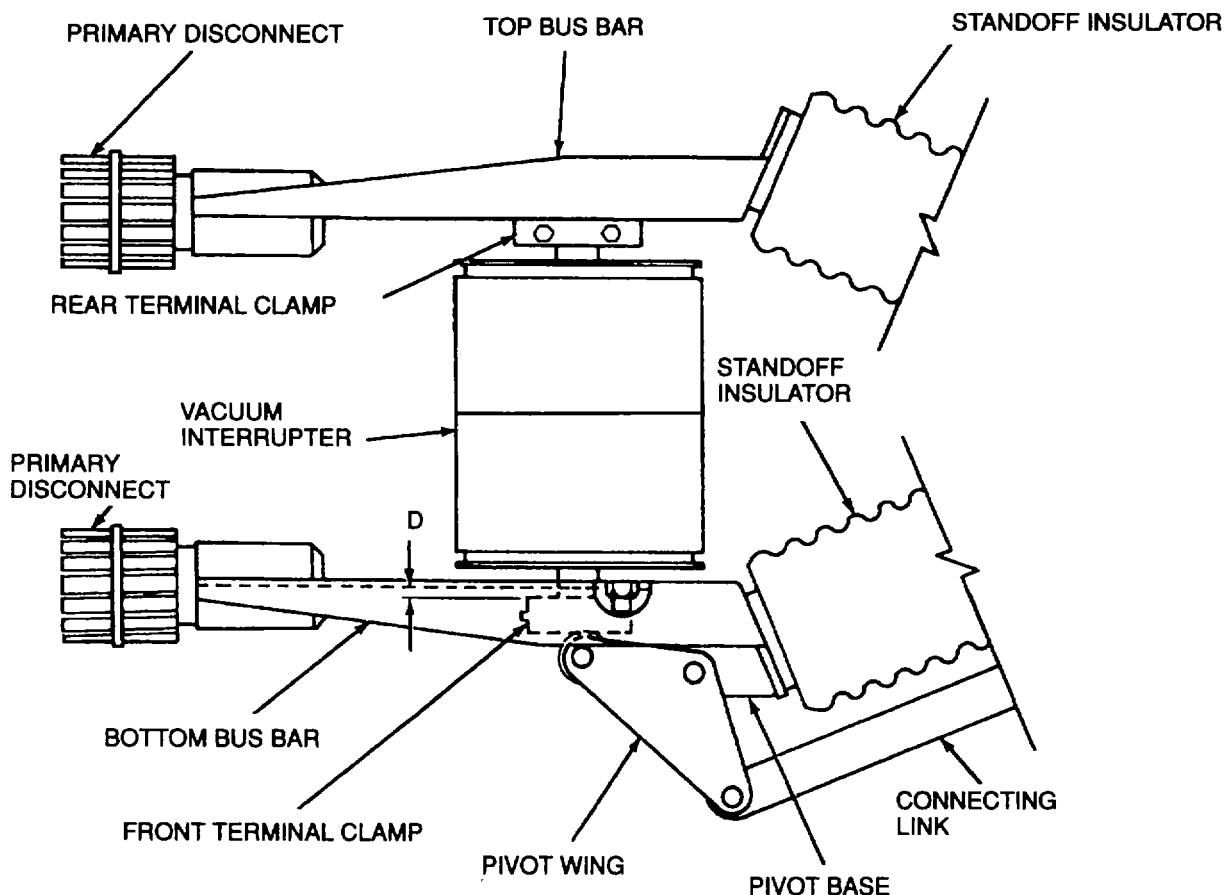
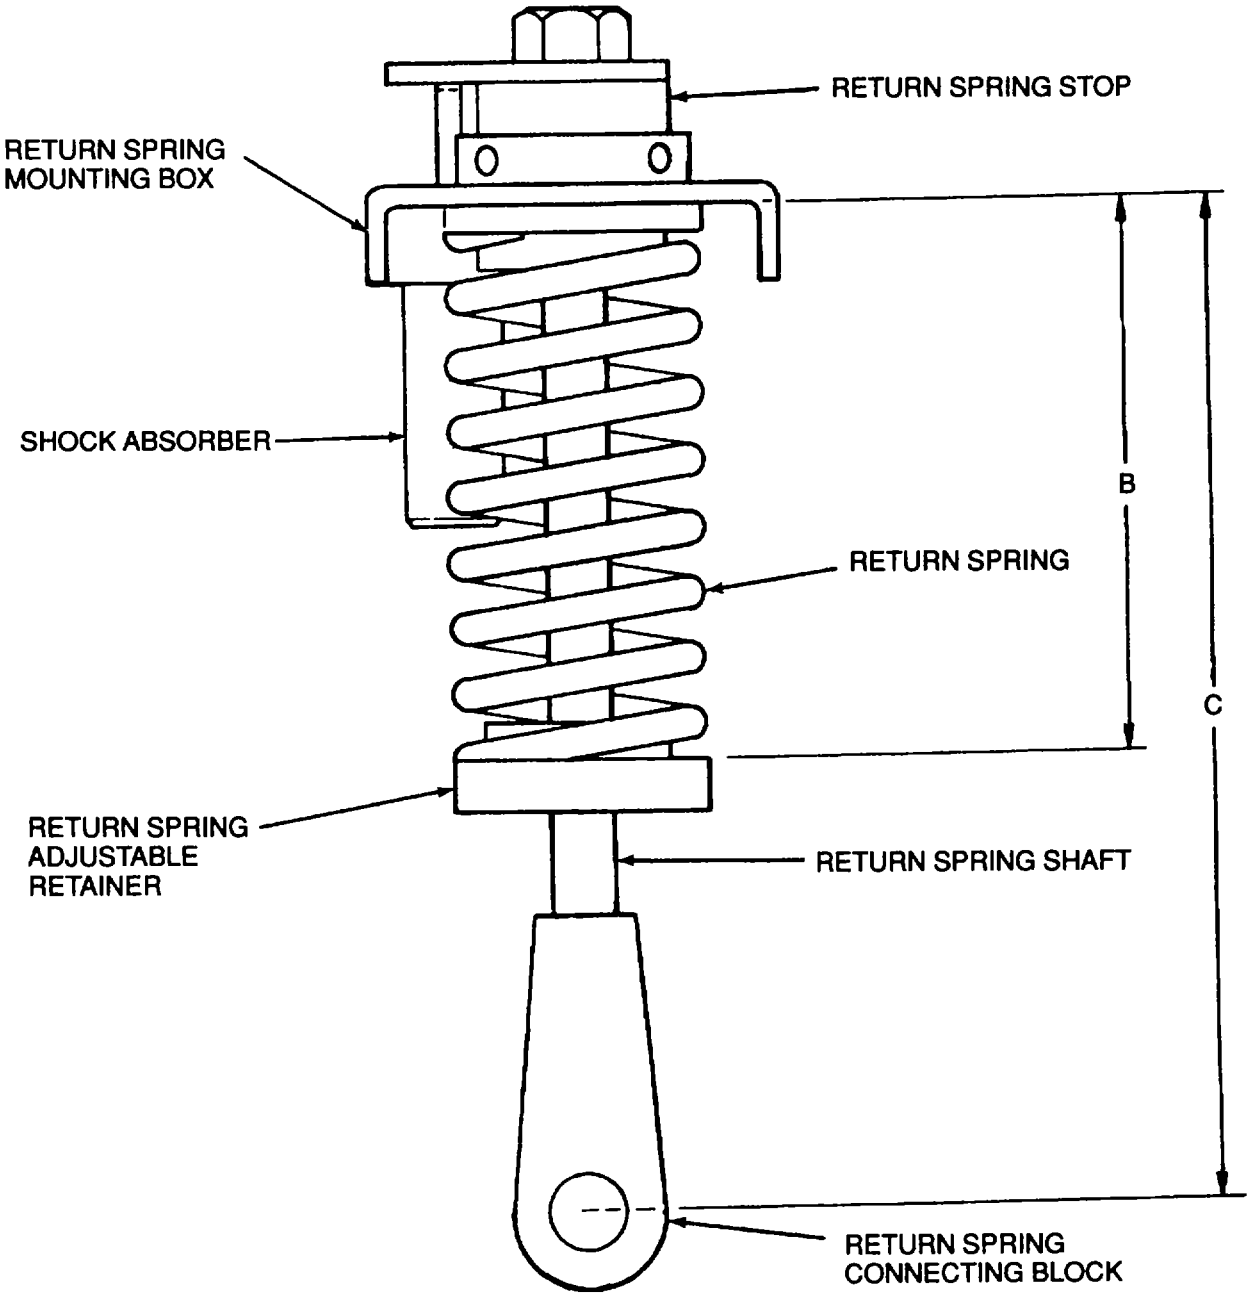

Figure 5-21. Load Circuit Breaker CB101, Detail of Vacuum Interrupter Assembly
Figure 5-22. Load Circuit Breaker CB101, Return Spring Preload Setting
c. Primary Contact Gap. With the load circuit breaker CB101 in the OPEN position, the primary contact gap shall be 0.625 to 0.800 inch (15.88 to 20.32 mm). To determine the primary contact gap, use a telescoping gauge and micrometer (0-1 inch) to measure distance D (Figure 5-21) with the breaker in the OPEN position, then with the breaker in the CLOSED position, remeasure distance D. The difference between these two measurements is the primary contact gap. To adjust the primary contact gap, proceed as follows: CAUTION This procedure is performed with the return springs in the charged position.
This procedure must be performed if a vacuum interrupter or return spring has been replaced. To facilitate this adjustment after a return spring has been replaced, the initial setting (distance C, Figure 5-21) should be approximately 9 5/8 inches (244 mm) when the breaker is in the open position.
- (1) Evenly turn the stops (Figure 5-21) clockwise (viewed from above) to decrease the primary contact gap and counterclockwise to increase the primary contact gap. Both stops must be turned the same amount to prevent uneven wear and/or damage. It should be noted that both stops can be turned easily if the locking nuts are loosened and the breaker is in the CLOSED position. Use caution since the return springs (Figure 5-16) are in the charged position.
- (2) After performing the adjustment, tighten the locking nuts against the stops.
- (3) Open and close the breaker, then remeasure the primary contact gap.
- (4) Repeat steps (1) through (3), above, until the correct primary contact gap is obtained.
d. Return Spring Preloading Setting. The return spring preloading setting is determined by measuring distance B as shown in Figure 5-22. With the load circuit breaker in the OPEN position, distance B shall be 5.75 O.13 inches (146 i3.2 mm). To adjust distance B, turn the adjustable retainer clockwise (viewed from above) to increase distance B and counterclockwise to decrease distance B.